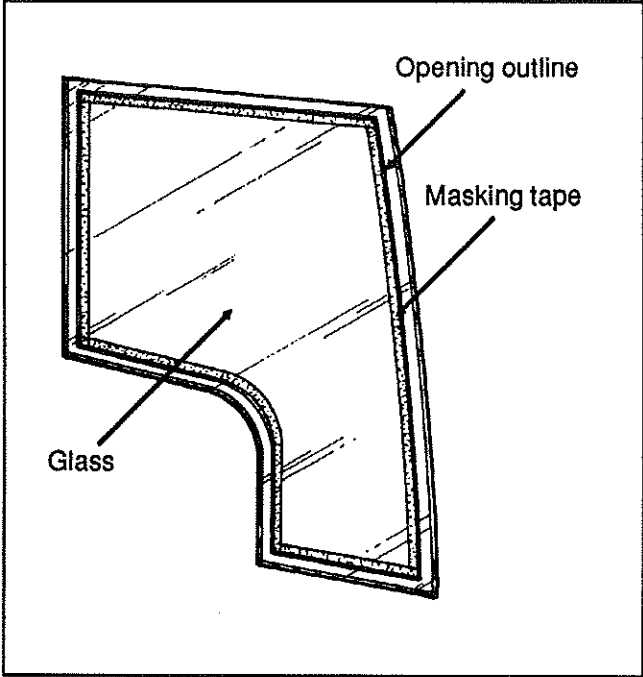

Fig. 27
4. Tape the glass inside and all around the outline marked with the pencil. For ease of removal, do not overlap the tape at corners. See figure 27.